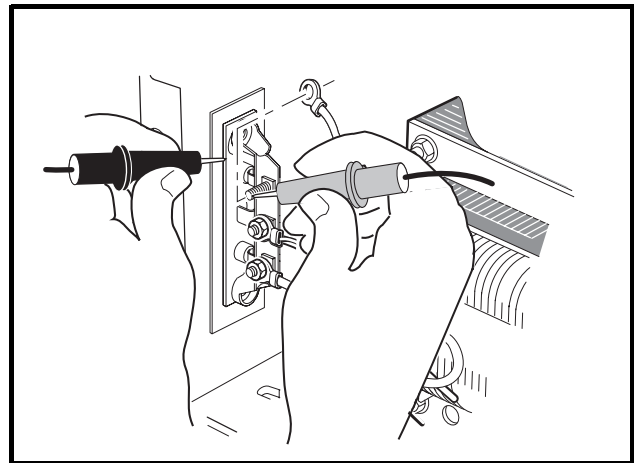

Figure 6-11 Diode Test – Probes Reversed
6. Reverse test probes and check each diode again and note the reading **(Figure 6-11, Page 6-15).** A diode is designed to conduct current in one direction only. If a diode conducts current (shows continuity) in both directions, the entire heatsink with diodes must be replaced. If a diode does not conduct current (does not show continuity) in either direction, the entire heatsink must be replaced.